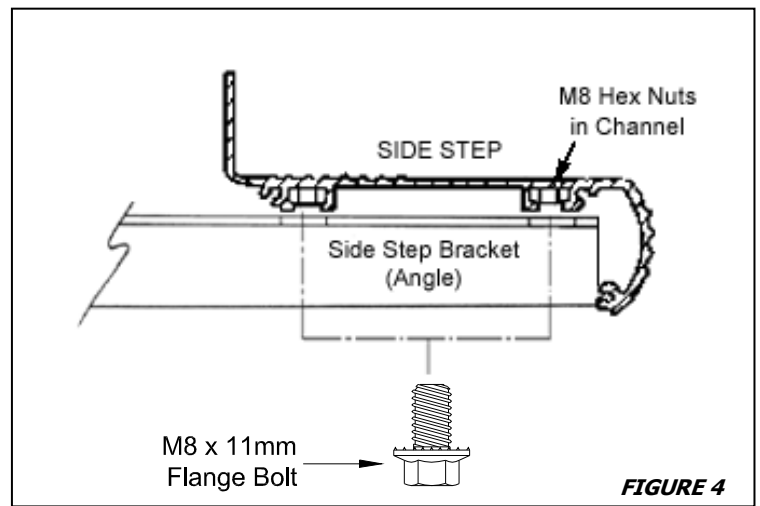

FIGURE 4
10. Secure the Side Step to the front bracket using 2x M8 x 11mm Flange Bolts, picking up nuts in the channels of the step – See *Figure 4*.
14. Move along to the centre of the sill and locate a similar body feature as in step 4 approximately 930mm from the front bracket. Position the centre bracket (9BP013) as described in step 11. Secure the centre bracket to the side step – See *Figure 4* and step 10 for details.